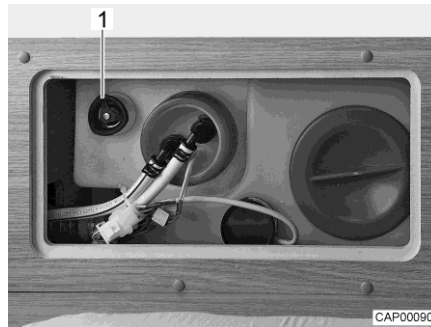

Fig. 89 Water tank with rotary handle
- Turn the rotary handle (Fig. 89,1) on the water tank in an anticlockwise direction as far as possible beyond the resistance to fully open the drainage opening.